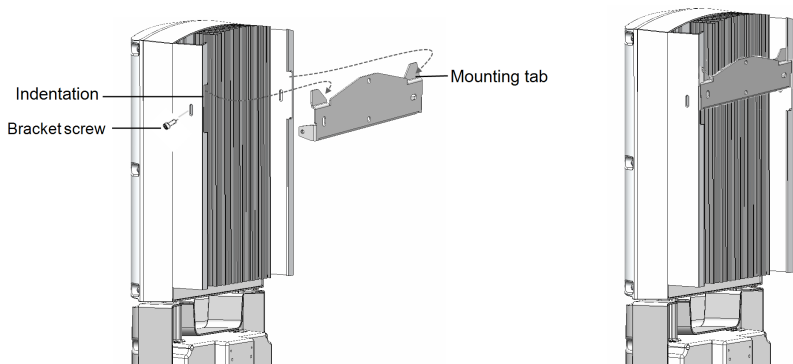

Figure 12: Hanging the inverter on the bracket
- Ensure that the flat side of the bracket is at the bottom, as in *Figure 12*.
- Hang the inverter on the bracket (see *Figure 12*): Lift the inverter from the sides, or hold it at the top and bottom of the inverter to lift the unit into place. Do not lift holding the Safety Switch StorEdge Connection Unit as it may be damaged.
- Insert the two supplied screws through the outer heat sink fin on both sides of the inverter and into the bracket (see *Figure 12*). Tighten the screws with a torque of $4.0\text{ N}\cdot\text{m}$ / $2.9\text{ lb}\cdot\text{ft}$.